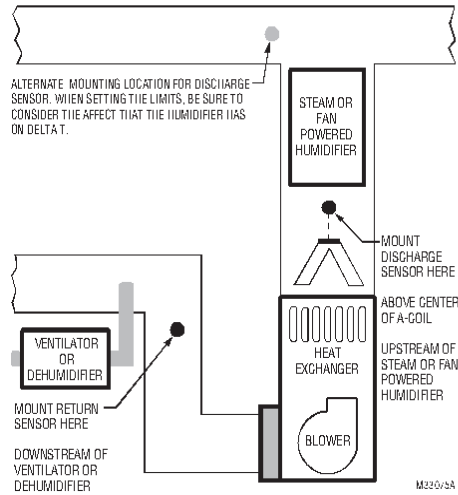

Fig. 2.
2. When possible, mount the Discharge Air Temperature Sensor upstream of a Steam Humidifier, a Fan Powered Humidifier or a Dehumidifier that is ducted to the supply. See Fig. 2–3.
3. If space does not allow a Discharge Air Temperature Sensor upstream of a Steam Humidifier or Fan Powered Humidifier, mount the Discharge Air Temperature Sensor downstream of the Humidifier. See Fig. 2. When setting the Delta T Limits (see “Set Delta T Limits” on page 5), be sure to consider the affect that the humidifier has on Delta T.